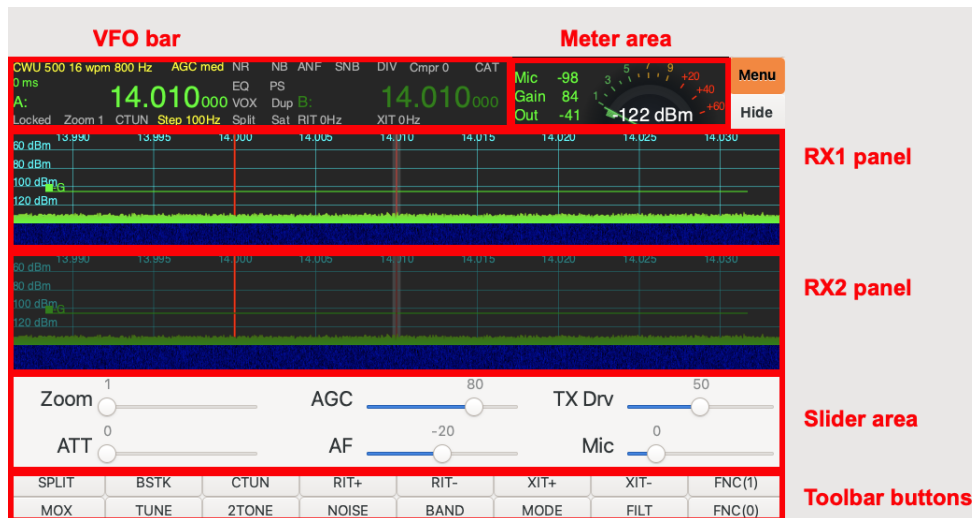

Fig. 3.3: First start of the radio with defaults settings.
If all went well, a radio could be discovered and you hit the **Start** button, the radio is started, and if this succeeds, you see something like shown in Fig. 3.3.
Some important areas are marked with red rectangles. At the top (denoted “VFO bar” in Fig. 3.3), just below the window title, you have the VFO bar which contains information on the frequencies of the two VFOs A and B, as well as lots of further information, to be explained later. To its right, there is the “Meter area” where you find meters that show important receive (RX) and transmit (TX) parameters. At the top right, there are two buttons **Menu** and **Hide** which will be explained in the next chapter. The **Menu** button is used very often (to open the piHPSDR menus) so it is highlighted in orange colour. Below the VFO bar, you see the panels (panadapters) for two receivers (“RX1 panel” and “RX2 panel”), stacked vertically. In Fig. 3.3, both panadapters show both a spectrum and a waterfall. The default
At the end of the previous chapter (Fig. 3.3), there were two receiver panels in the piHPSDR window, and both including a spectrum scope (the green-coloured noise floor) and a blue-coloured waterfall. The waterfall area “empty” in the above picture since there was no RF signal. piHPSDR can be switched between having one or two receivers in the Radio menu (Chapter 7.1). If there are two receivers (called RX1 and RX2), one of them is the *active receiver*. If you look closely at the above picture, you will note that the spectrum scope of the lower (RX2) panel is shaded, while it is in bright colour for RX1. This indicates that RX1 is currently the active receiver. By simply clicking into the panel of the other (inactive) receiver, either with a mouse or on a touch screen, the formerly inactive receiver becomes active.